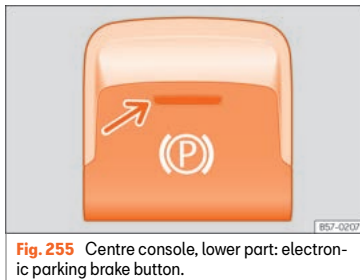

Fig. 255 Centre console, lower part: electronic parking brake button.
- Pull and hold the  » **Fig. 255** button.
- The parking brake is activated when the control light of the » **Fig. 255** button (arrow) and the red  control light of the display in the dash panel are on.
- Press the button  » **Fig. 255**. At the same time step hard on the brake pedal or, if the engine is running, press the accelerator pedal slightly.
- The control light of the » **Fig. 255** button (arrow) and the red  control light of the display in the dash panel go out.
pulling up the  **Fig. 255** switch when starting off.
- Pull and hold the  **Fig. 255** button in this position to **forcefully** stop the vehicle. At the same time, an acoustic warning can be heard.